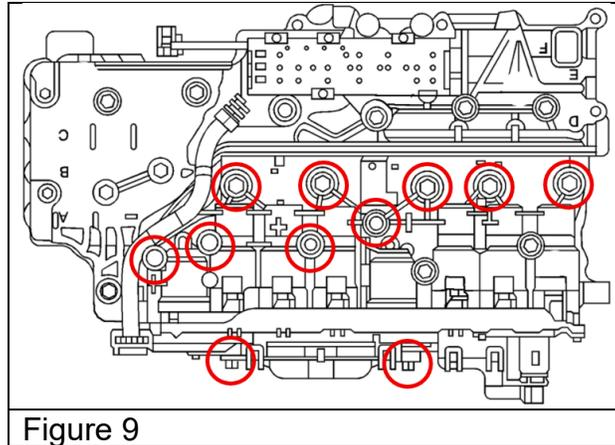

Figure 9
12. Separate the control solenoid valve assembly by removing the eleven (11) bolts. Place aside in a clean location and discard the old filter plate. See Figure 9.